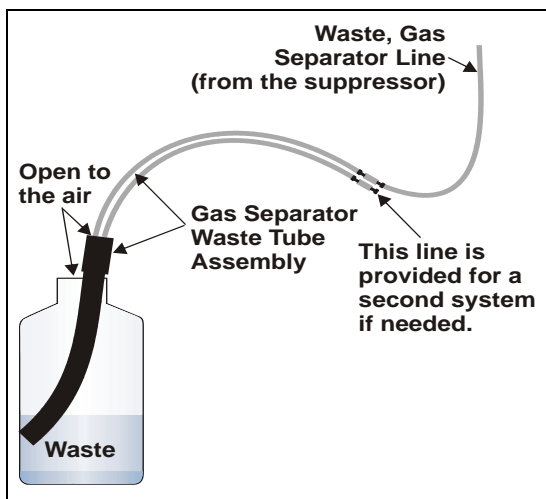

Figure B-22. Gas Separator Waste Tube Installation
2. Connect the **WASTE, GAS SEPARATOR** line from the suppressor to one of the 3-mm (1/8-in) ID white Teflon lines on the gas separator waste tube assembly (see Figure B-22).
DO NOT CAP THE WASTE CONTAINER: The ICS-1000, Atlas Electrolytic Suppressor, and Self-Regenerating Suppressor (SRS) use an electrolytic process that results in the production of small amounts of oxygen or hydrogen gas. To ensure that the gas is not trapped in a closed container and allowed to concentrate, install a 1.3-cm (0.52-in) ID black gas separator waste tube (P/N 045460) in an uncapped waste container. Connect the Waste, Gas Separator line to the waste tube (see Figure B-22).